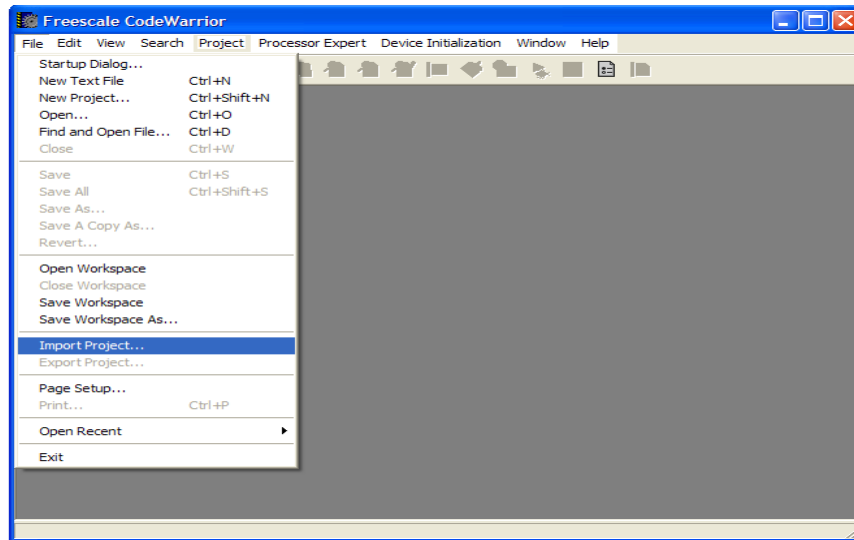

Figure 5-17. CodeWarrior Import Project...
2. Select File -> Import Project... as shown in Figure 5-17.